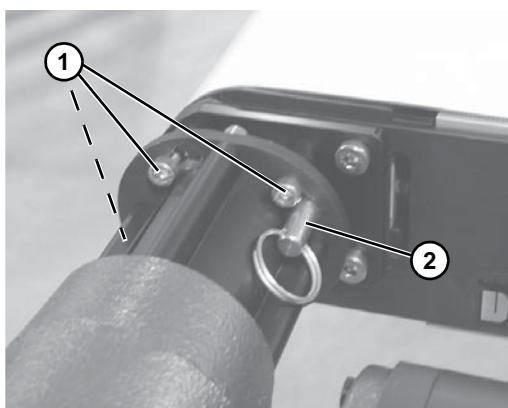

Figure 7
- Tighten screws (**Figure 7, item 1**) to 146 in-lbs (16.5 N-m) and install anti rotation pin (**Figure 7, item 2**).